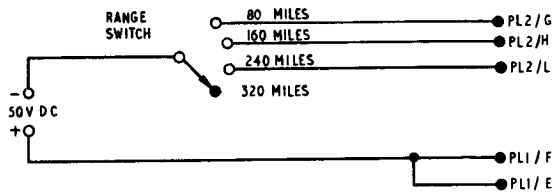

Fig. 7. Simulated range switch circuit
- (1) The RANGE switch circuit should be simulated by the improvised test circuit shown in fig. 7.